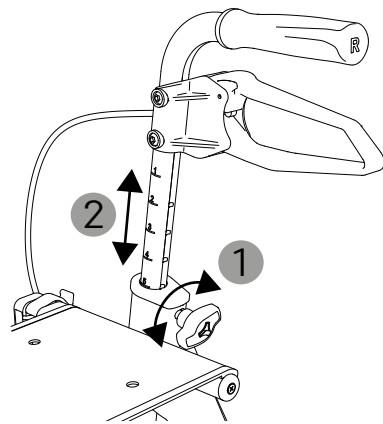

Fig. 3
1. Loosen the locking screws of both push handles by turning them anticlockwise two turns (1, Fig. 3). Do not loosen the locking screws fully.
2. The push handles can now be adjusted in height (2, Fig. 3). In doing so, they position themselves automatically at the markings. A clicking sound can be heard when it clicks into place.
4. When the correct height of the push handles has been found, tighten the locking screws (1, Fig. 3) again (clockwise).